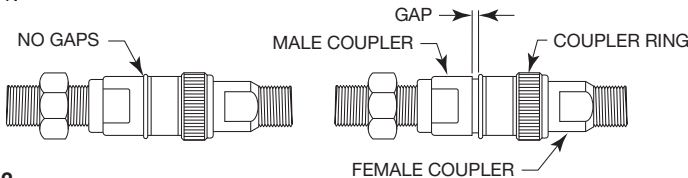

Figure 2
- 1) Attach the hydraulic hose to the coupler of the hydraulic pump (See Figure 2).